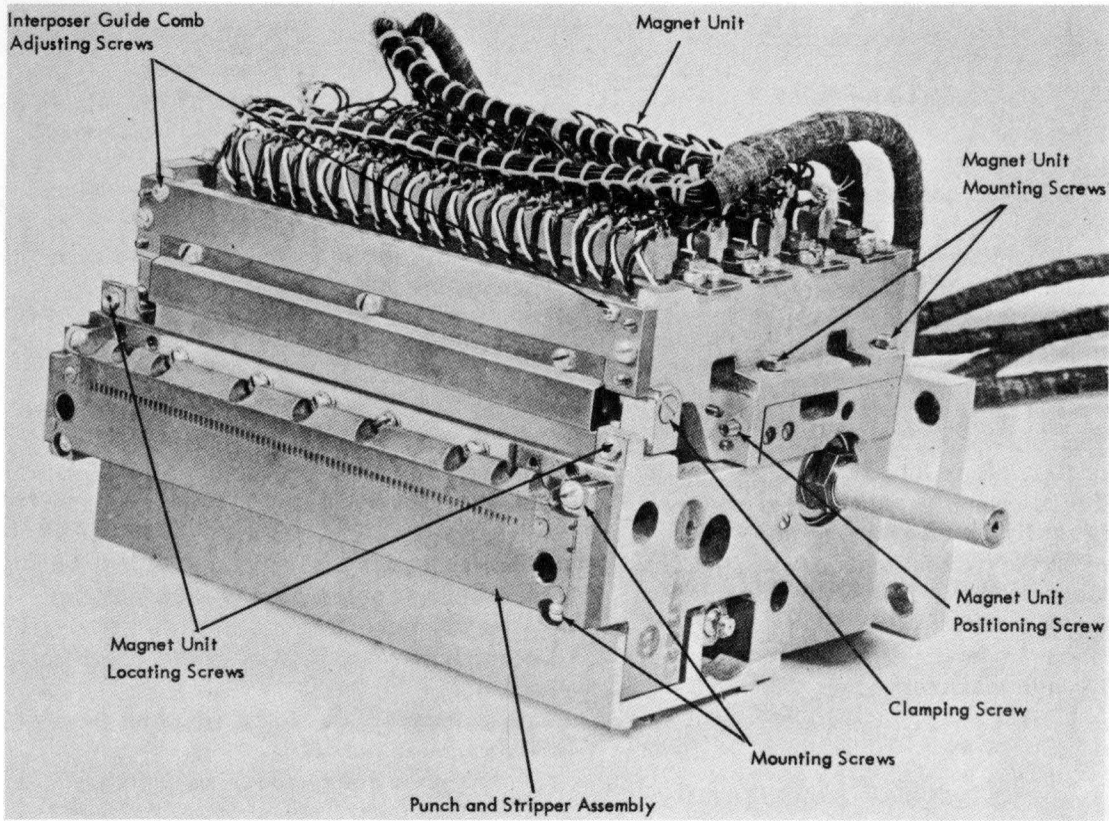

Figure 4-27. Punch Unit
4.4.15 Punch Unit (Figure 4-27)
1. Position the magnet unit on the punch unit by means of the magnet unit positioning screws (Figures 4-27 and 4-28) and the magnet unit locating screws. A clearance of .007" to .013" (.005" to .010" sealed ball bearing unit) between the latch and the punch magnet armature should be established while the interposer setup bail is at its lowest limit of travel.
NOTE: Clamping screws (Figure 4-27) hold end of interposer guide comb and thus move with magnet unit.
- b. Loosen the lock nuts on the interposer guide comb adjusting screws (Figure 4-27).
1. Use timing rod (P/N 219300) to line up the timing holes in the cams with the hole in the left side frame (Figure 4-27).